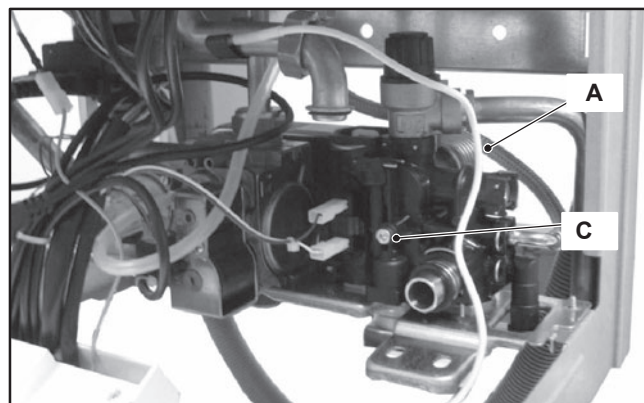

Figure 6.4
- 6 Completely unscrew the Allen key screws C (Figure 6.4) which hold the exchanger to the plastic groups.